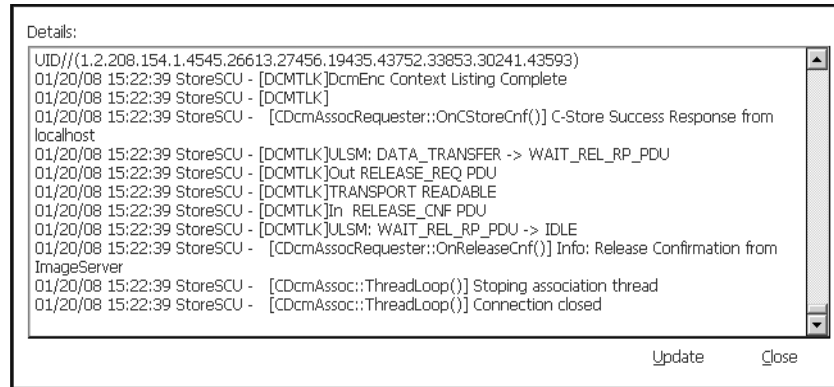

Figure 6-13. The DICOM transaction log.
- **Details** – see log of DICOM transactions (see Fig 6-13).